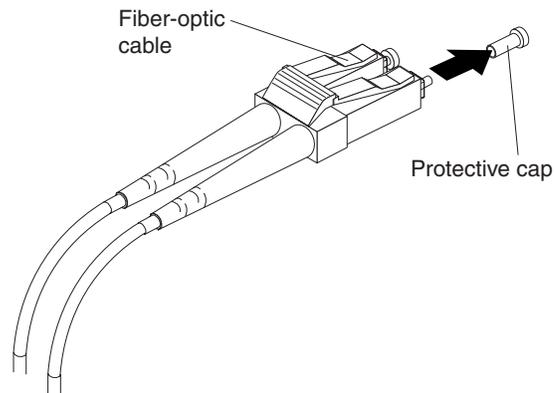

Figure 7. Removing the fiber-optic cable protective caps
3. Remove the two protective caps from one end of the LC-LC cable as shown in Figure 7. Save the protective caps for future use.
- Remove the two protective caps from the other end of the LC-LC cable, as shown in Figure 7 on page 7. Save the protective cap for future use.